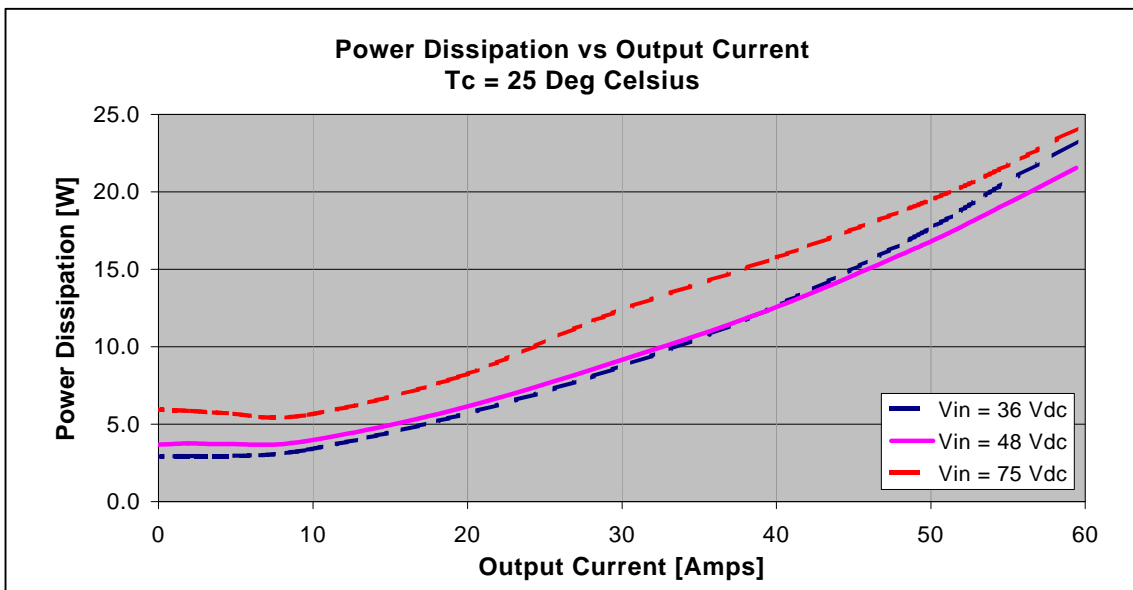

Figure 18. ALH/AEH60F48 Power Dissipation VS. Load Current.
From Figure 18, the power dissipation for a 45A-load requirement can be determined ($P_D = 15\text{W}$). Through Equation (3), the Thermal Resistance can be calculated to be at **at q £ 3.0 $^{\circ}\text{C}/\text{W}$** .